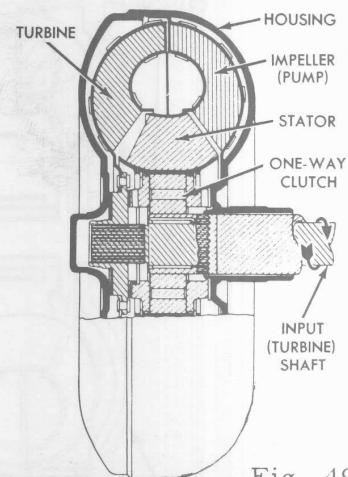

Fig. 49
- ⊠ The hydraulic torque converter includes an impeller (pump), a turbine, and a stator. (Fig. 49). These components are enclosed and operate in an oil filled housing.
- ⊗ The converter multiplies torque when the turbine rotates at less than  $\frac{9}{10}$  impeller speed. The oil leaves the turbine blades and strikes the front face of the stator blades. The stator blades are held stationary by the action of a one-way clutch as long as oil is directed against the front face of the stator blades (Fig. 49).